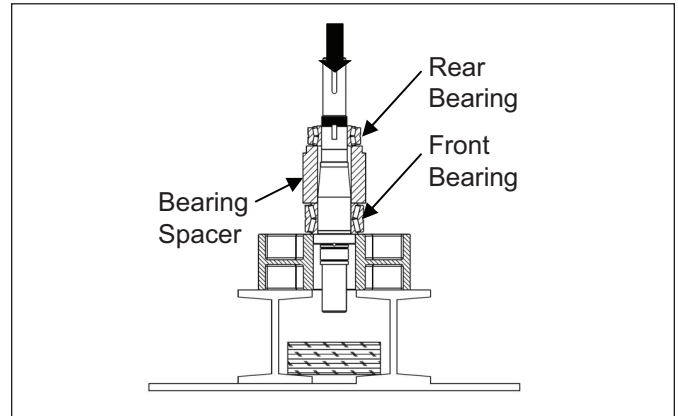

Figure 35. Removing Bearings and Sleeve from Shaft
6. Using a press and a V-block, remove the front and rear bearings along with the bearing spacer. To prevent damage to the shafts make sure that both ends are protected (Figure 35). Reference Table 5 for the required force (in tons) needed to press the bearings off the shafts.